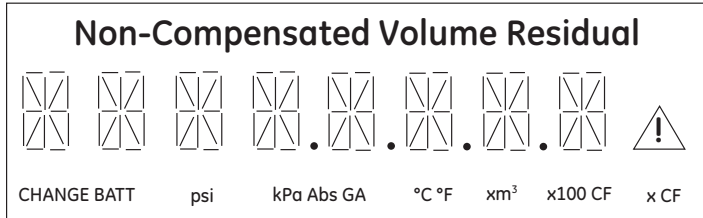

Figure 6.3 - Data Display Screen
- Data will be displayed in digital format as shown in Figure 6.3